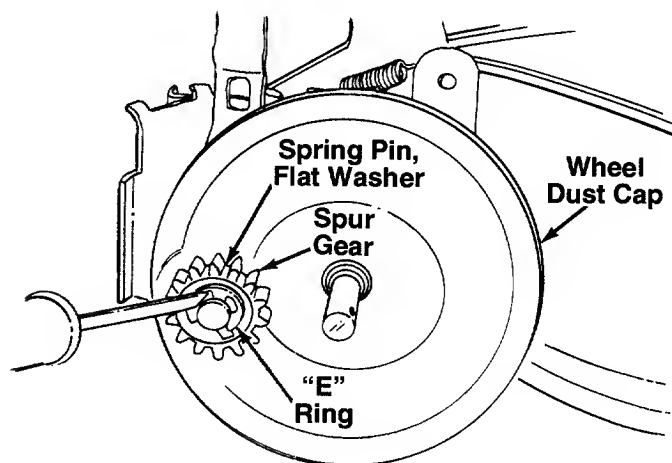

FIGURE 13.
8. With a screwdriver pry "E" ring off of front axle. Slide off spur gear, spring pin, flat washer and wheel dust cap. See figure 13.